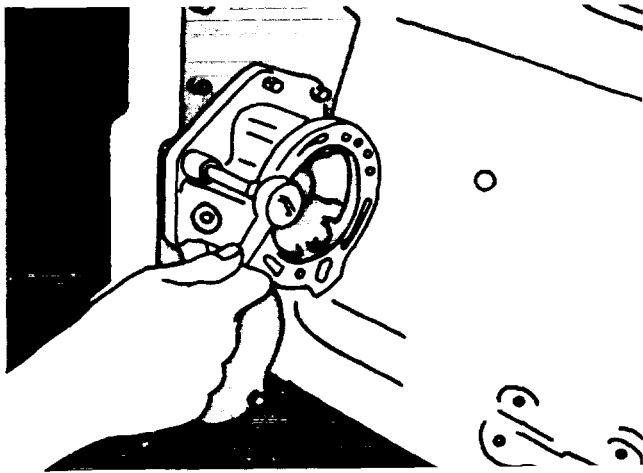

Figure 16N-32. Install the Accessory Drive
2. The accessory drive capscrews are installed after the front housing cover installation, Figure 16N-32.